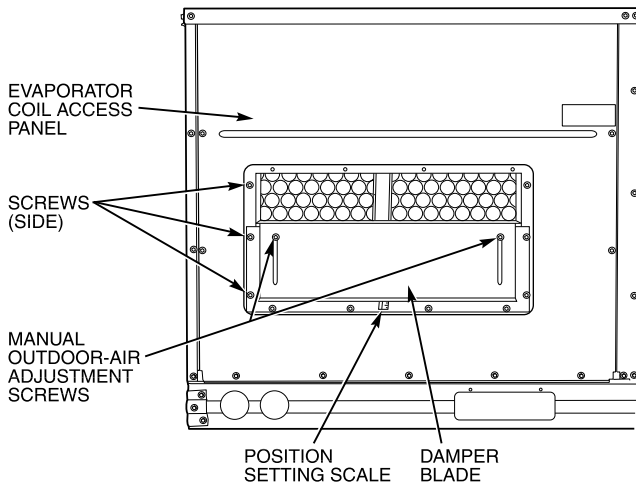
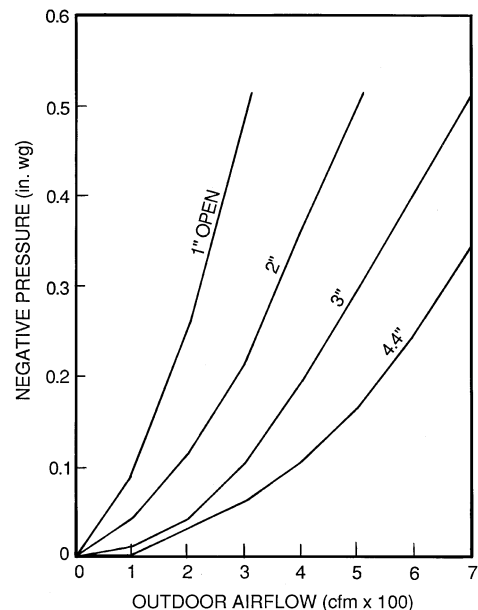

Fig. 13 — Damper Panel with Manual Outdoor-Air Damper Installed
Fig. 16 — Position Setting
2. Remove and save evaporator coil access panel and screws. See Fig. 13.
8. Adjust minimum position setting of the damper blade by adjusting the manual outdoor-air adjustment screws on the front of the damper blade. See Fig. 13. Slide blade vertically until it is in the appropriate position determined by Fig. 16. Tighten screws.